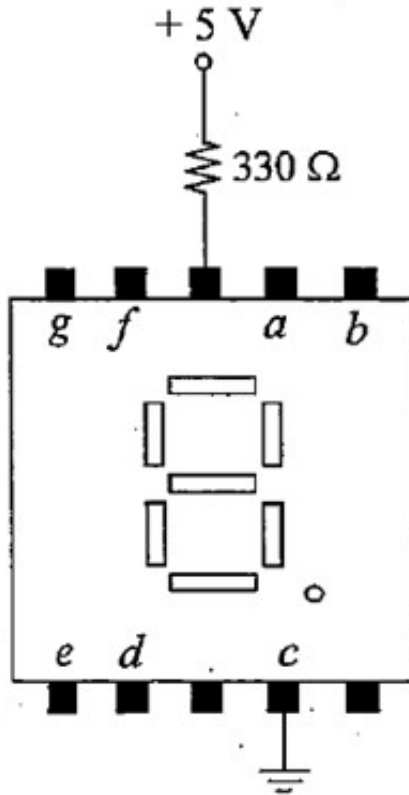

Figure 2.2(b)
4. Complete Figure 2.2 (b). Fill the colors on segment c if you find there is light on it. Note that this is the result of your experiment. (No need to fill if you find no light on segment c)